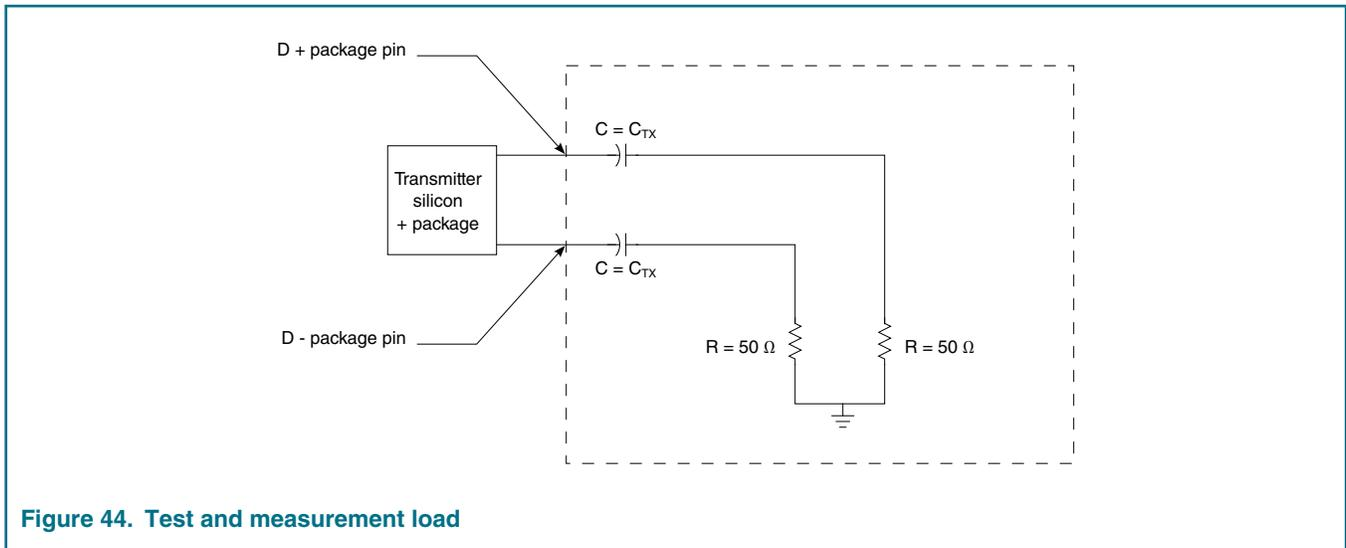

Figure 44. Test and measurement load
5. See Figure 44. on page 133.
1. Each UI is 200 ps ± 300 ppm. UI does not account for spread-spectrum clock dictated variations. 2. The maximum transmitter jitter can be derived as $T_{TX-MAX-JITTER} = 1 - T_{TX-EYE} = 0.25$ UI. Does not include spread-spectrum or REFCLK jitter. Includes devices random jitter at 10^{-12} . 3. Specified at the measurement point into a timing and voltage test load and measured over any 250 consecutive transmitter Uis. 4. A $T_{TX-EYE} - 0.75$ UI provides for a total sum of deterministic and random jitter budget of $T_{TX-JITTER-MAX} = 0.25$ UI for the transmitter collected over any 250 consecutive transmitter Uis. The $T_{TX-EYE-MEDIAN-to-MAX-JITTER}$ median is less than half of the total transmitter budget collected over any 250 consecutive transmitter Uis. It must be noted that the median is not the same as the mean. The jitter median describes the point in time where the number of jitter points on either side is approximately equal as opposed to the averaged time value. 5. See Figure 44 , on page 133. 6. Reference input clock RMS jitter (< 1.5 MHz) at pin < 1 ps. 7. All transmitters must be AC coupled. The AC coupling is required either within the media or within the transmitting component itself. 8. The chip's SerDes transmitter does not have C_{TX} built-in. An external AC coupling capacitor is required.